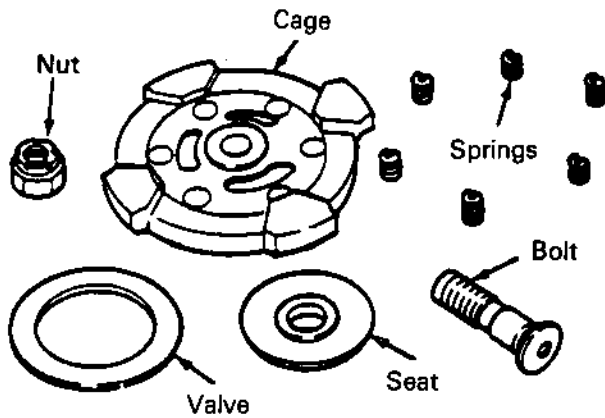

Figure 16 – Discharge Valve Components
2. Remove the locknut (6) from the valve cage bolt (11).
3. Remove the bolt (11) and valve seat (10) from valve cage (7).
4. Separate the discharge valve six springs from the valve cage (Fig. 16).